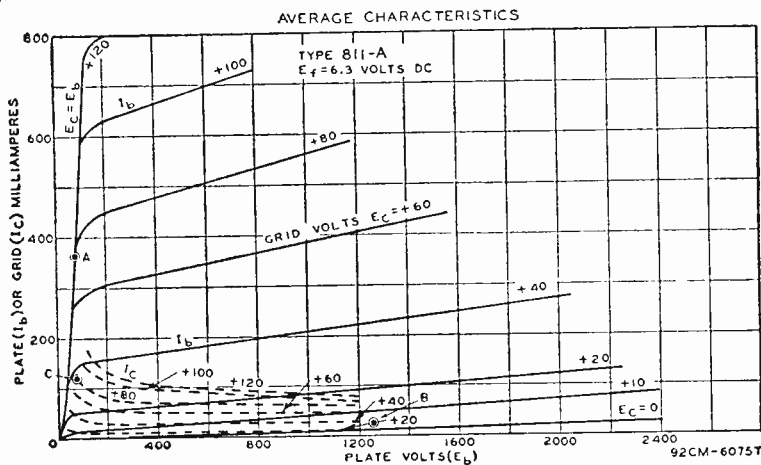

Fig. 48
Calculate operating values for the RCA-811A for linear rf power amplifier service under ICAS conditions. Refer to Fig. 48 for curve values.
- (1) Select  $E_b = 1250$  volts.
- (2) Calculate:  $I_{b_e} = 0.9 P_{lne}/E_b = 0.9 \times 165/1250 = 0.12$  ampere.
- (3) Calculate:  $I_{bmax} = 3 I_{b_e} = 3 \times 0.12 = 0.36$  ampere.
- (4) Calculate:  $I_b = I_{b_e}/1.4 = 0.12/1.4 = 0.09$  ampere.
- (5) On Fig. 48 locate  $I_{bmax} = 0.36$  ampere at Point A. Read  $E_{cmax} = 80$  volts,  $E_{bmin} = 80$  volts.
- (6) Calculate  $I_{b_0} = I_{b_e}/5 = 0.12/5 = 0.024$  ampere.
- (7)  $P_{lne} = E_b I_{b_e} = 1250 \times 0.120 = 150$  watts.
- (8) Calculate:  $PEP = (I_{bmax}/4)(E_b - E_{bmin}) = (0.36/4)(1250 - 80) = 0.09(1170) = 105$  watts.
- (9)  $P_p = 0.7 P_{lne} - 0.5 PEP = (0.7) 150 - (0.5) 105 = 52.5$  watts.
- (10) Record:  $E_g = E_{cmax} = 80$  volts.
- (11) On Fig. 48 locate  $I_{cmax} = 0.12$  ampere at Point C.
- (12) Calculate:  $I_{r_e} = I_{cmax}/3 = 0.12/3 = 0.04$  ampere.
- (13) Calculate:  $I_c = I_{r_e}/1.4 = 0.04/1.4 = 0.028$  ampere.
- (14) Calculate:  $P_d = E_g(I_{cmax}/4) = 80(0.12/4) = 2.4$  watts.